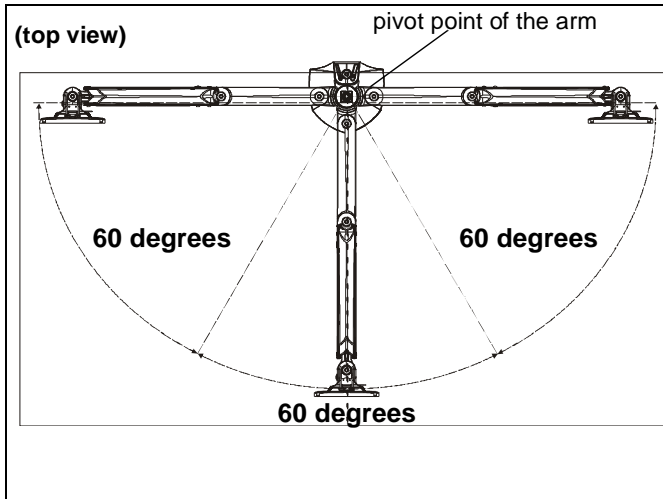

Figure 6
1. Adjust arm angles as desired within a 60 degree range. (See Figure 6)